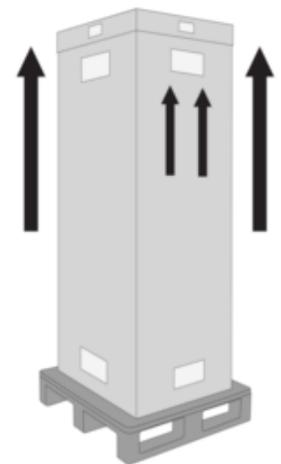

Figure 3—Lifting the Box
- 2 If the cabinet arrived in a box, lift the box off the top of the cabinet (see *Figure 3*).**